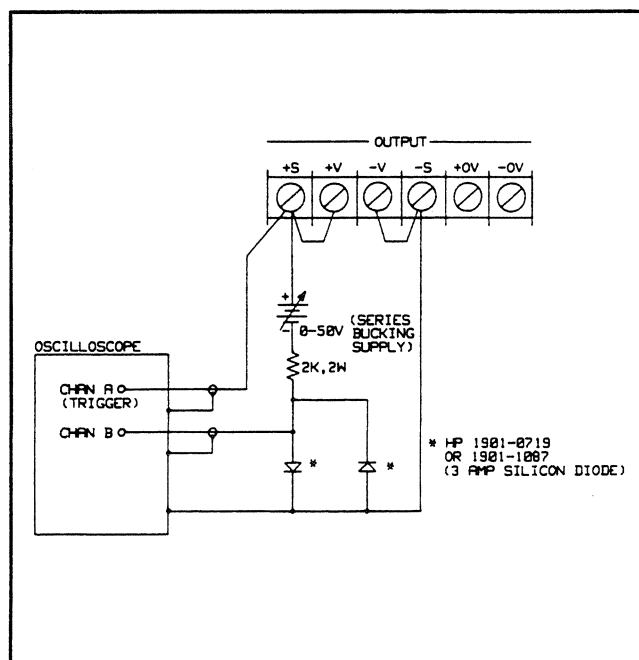

Figure 3-6. CV Up Programming Speed Test Setup
- Turn off the supply and connect the output to be tested as shown in Figure 3-6.
- j. Now observe Channel B on the oscilloscope while maintaining the trigger on Channel A as in step h. Note the series supply bucks out the Full Scale Output Voltage and that the waveform is clamped at approximately -0.6 V and rises to the top horizontal line when the output voltage is at full scale. The diodes (see Figure 3-6) prevent gross overload of Channel B (which is set at 50 mV division) allowing examination of the "tail" of the exponential waveform. The output voltage should be within 20 mV of its final settling value on the top horizontal line is less than 2 msec. for 40WLV/80WLV outputs and within 50 mV in less than 6 msec. for 40WHV/80WHV outputs.